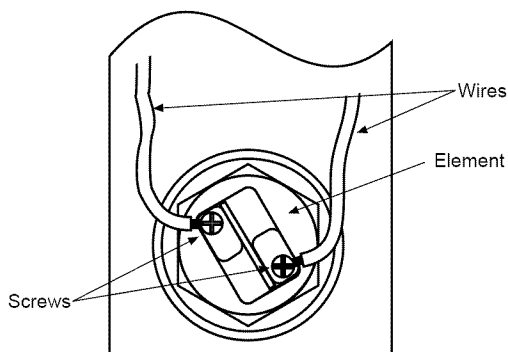

FIGURE 19.
6. Disconnect the electrical wires from the heating element(s) by loosening the screws (Figure 19). Remove the screw-in element(s) by turning the element(s) counterclockwise with a 1-1/2 inch socket wrench. Remove the existing gasket(s).
12. Reconnect the electrical wires to the element and securely tighten the screws (See Figure 19).